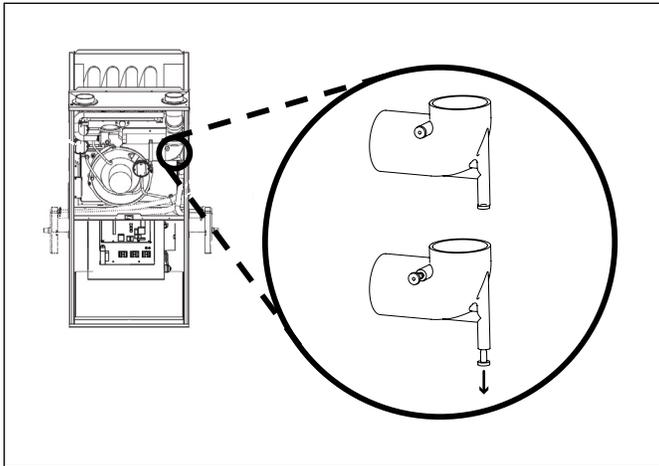

Figure 13
4. Remove cap from the inducer drain port (see Fig. 13).